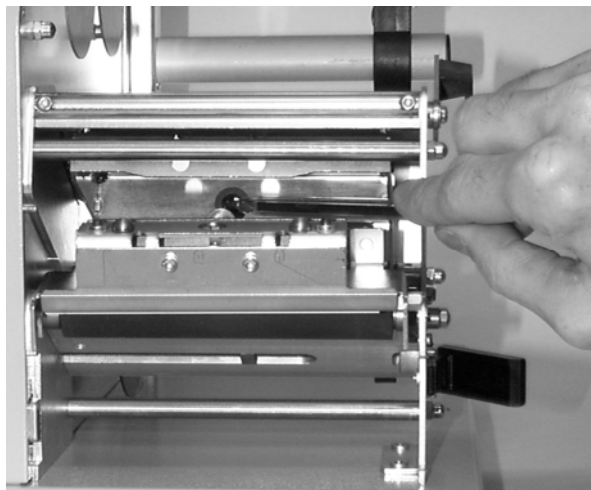

Fig. 7 – Guide hole
- Insert the guide pin in the corresponding hole on the print head group (see Fig. 7).